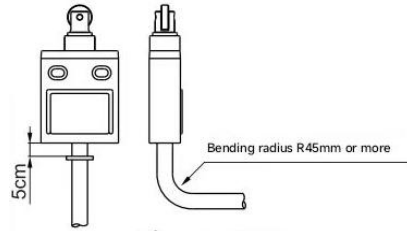

Figure 1
- The bottom of the wire and the switch are fixed with resin. Therefore, to ensure that the wire is not stressed, please fix it 5cm away from the switch. See Figure 1.
- When the wire is bent, the bending radius of the wire must be above R45mm. Do not damage the insulation layer and sheath of the wire. It may cause short circuit, burnout and leakage. See Figure 1.